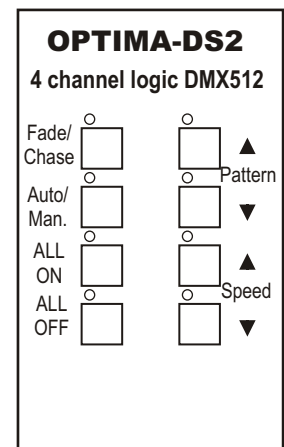

Fig. 9 The OPTIMA-DS2 Front Panel
V. The Control Panel - See figure 9 below.